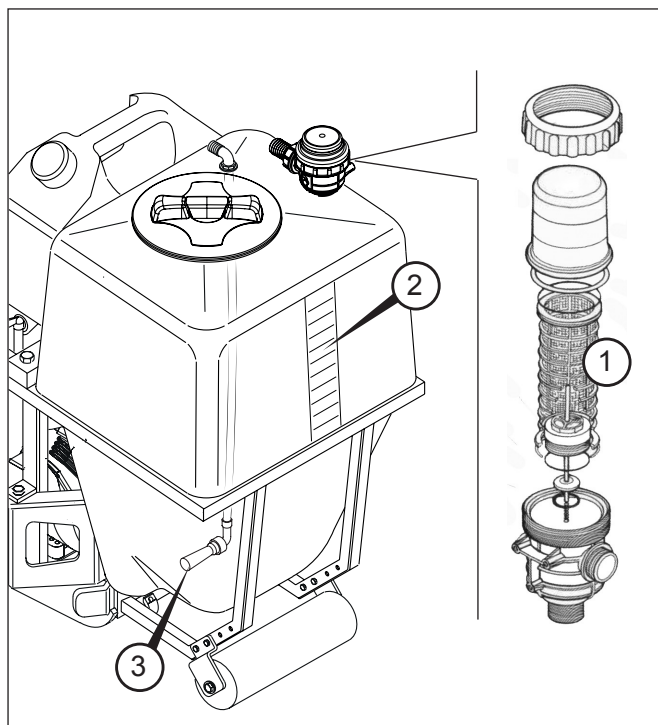

Fig. 9
4.1.3 SUCTION FILTER (Fig. 9)
filtranti (1 Fig. 9) di circa 50 mesh e con foro equivalente da 0.4 to 0.35 mm.
Also make sure that the filter (1 Fig. 9) is well cleaned. If necessary, clean it.
The tank has a graduated band (2 Fig. 9) which shows the exact amount of liquid inside for transparency. Said detection specifies whether the tank is on a level surface; the total effective capacity coincides with the last number at the top.
The product can be mixed using the agitator placed inside the tank (3 Fig. 9) before and during treatment. Good mixing and agitation are at the base of a correct distribution on the crop. Mix the active ingredient manually before introducing it into the tank.